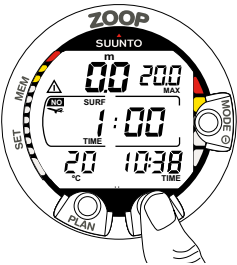

Fig 3.27. Surface interval, Surface time display. Pressing TIME button once will show surface time display.
- the surface time in hours and minutes (separated by a colon), telling the duration of the present surface interval (Fig. 3.27.)